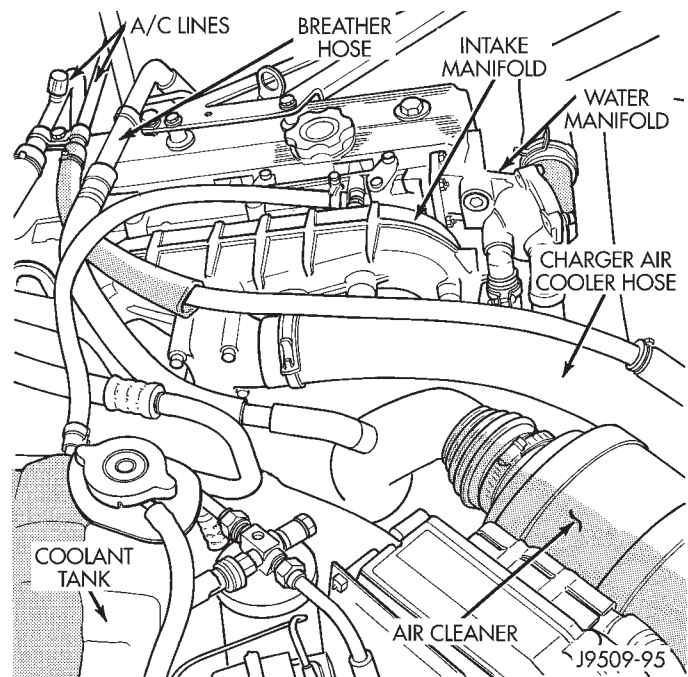

Fig. 10 Right side of Engine
- (3) Drain the cooling system (refer to Group 7, Cooling).
- (4) Discharge the air conditioning system, if equipped (refer to Group 24, Heating and Air Conditioning for service procedures).
- (5) Remove the lower radiator hose.
- (6) Remove the upper radiator hose and coolant recovery hose (Fig. 10).
- (7) Remove upper crossmember, refer to Group 23, Body Components for procedure.
- (8) Remove air cleaner hose from turbocharger and breather hose.
- (9) Remove the air cleaner assembly.
- (10) Disconnect A/C lines from condenser (Refer to Group 24, Heating and Air Conditioning) cap lines to keep foreign particles out.
(11) Tip radiator, A/C condenser, and fan shroud assembly away from engine.
(12) Remove fan and set fan inside fan shroud.
(13) Remove fan, fan shroud, radiator, and A/C condenser as an assembly.
(14) Disconnect the heater hoses and coolant recovery bottle hose (Fig. 10).
(15) Remove fuel lines, fuel filter, refer to Group 14, Fuel Systems.
(16) If equipped with air conditioning, remove the service valves and cap the compressor ports (refer to Group 14, Fuel System).